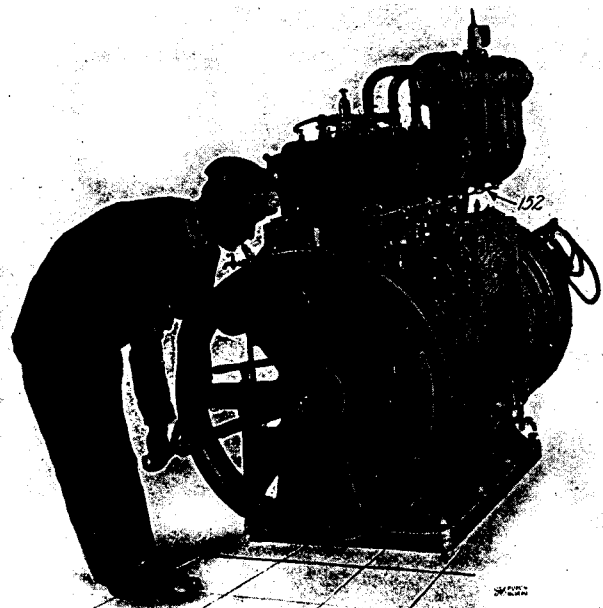

Fig. 7.—Correct method of cranking.
1. Place ignition switch (*part 77 Eisemann and G. F. magnetos, part 1038 Splitdorf magneto*) in "off" position (*see fig. 7; also par. 17*).
15. Engage crank as in fig. 7 and **pull up, never push down**. Repeat until engine starts (*see pars. 25c, 28e, 28f, and 29d*).